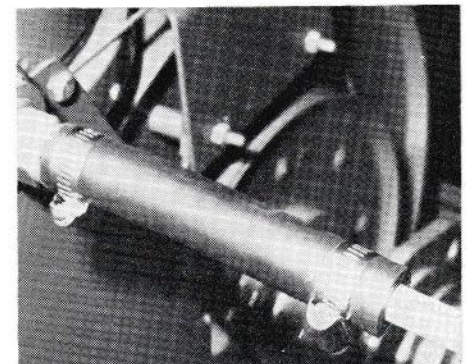

Figure 26
The Snowblower Drive housing mounts to the front of the tractor with two nuts and two bolts, the same as other Gravely power Attachments. The chute control crank should be attached to the top sprocket housing shaft of the Snowblower with the rubber connector and two (2) clamps which are provided. See Figure 26